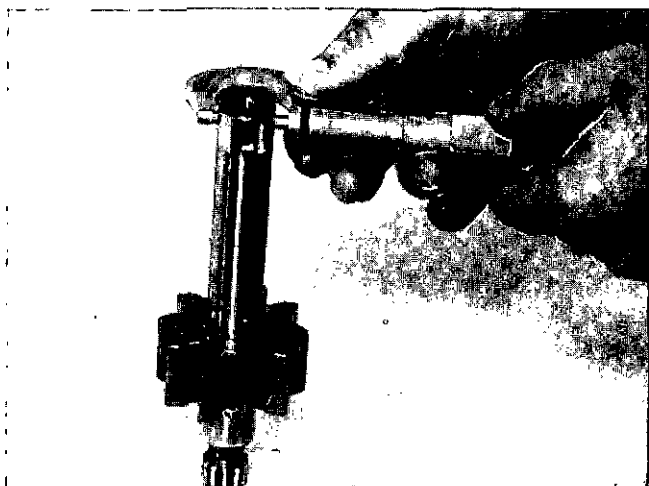

Fig. 7-5. Measure The Outside Diameter Of The Drive Shaft.
2. Check the drive shaft and idler shaft for damage or wear, Fig. 7-5 and 7-6. Replace the shaft if the outside diameter does not measure 0.8745 to 0.8750 inch [22.21 to 22.22 mm] or if it is damaged.